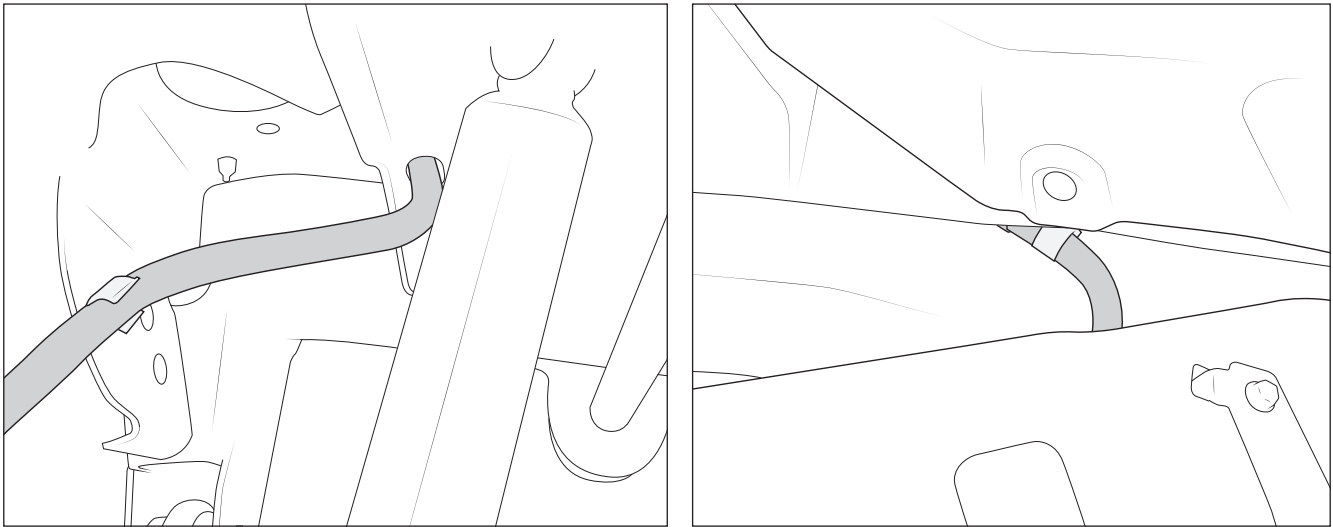

Figure 10
17. Reroute Axle Vent as shown (Fig. 10).